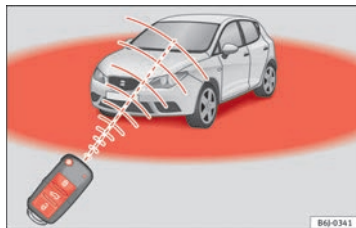

Fig. 50 Range of the radio frequency remote control.
- The radio frequency remote control key functions only when you are within range ⇒ Fig. 50.